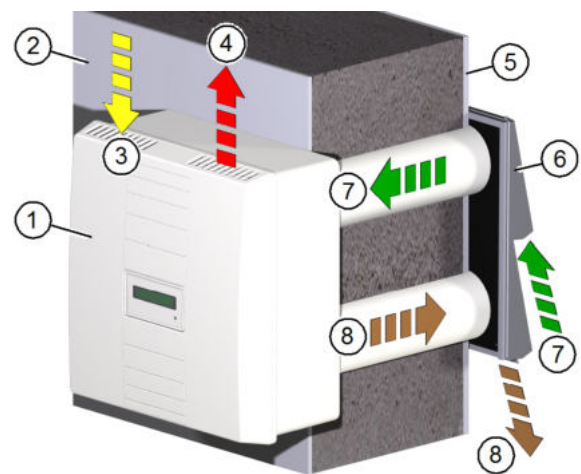
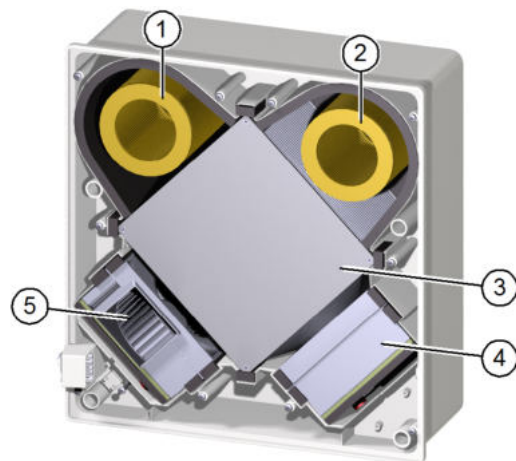

Fig. 7: How the ventilation unit works
Fig. 8: Components for air exchange
The supply air fan (item 5 in Fig. 8) transports outdoor air (item 7 in Fig. 7) through the supply air filter (item 2 in Fig. 8) and cross-flow plate heat exchanger (item 3 in Fig. 8) into the interior as supply air (item 4 in Fig. 7). The extract air fan (item 4 in Fig. 8) extracts the extract air (item 3 in Fig. 7) from the interior. In the extract air filter (item 1 in Fig. 8), the extract air is cleaned, guided through the cross-flow plate heat exchanger and carried outside as exhaust air (item 8 in Fig. 7). The supply air and extract air fans each transport the same volume of air. The pressure in the interior remains practically constant.